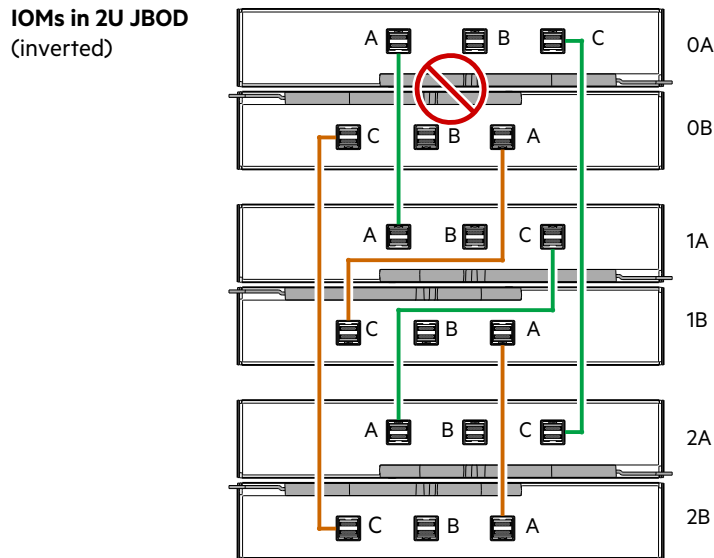

Figure 116 SAJ cabling: invalid configuration—IOM looped to JBOD instead of server
- Figure 116 \(page 144\) shows an IOM incorrectly looped to another JBOD instead of the server HBA